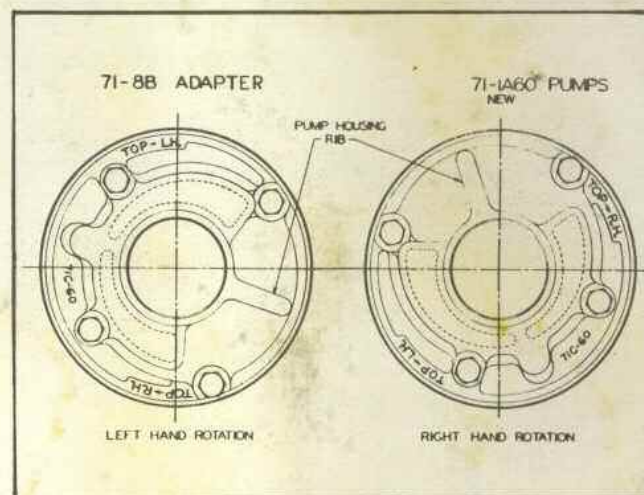
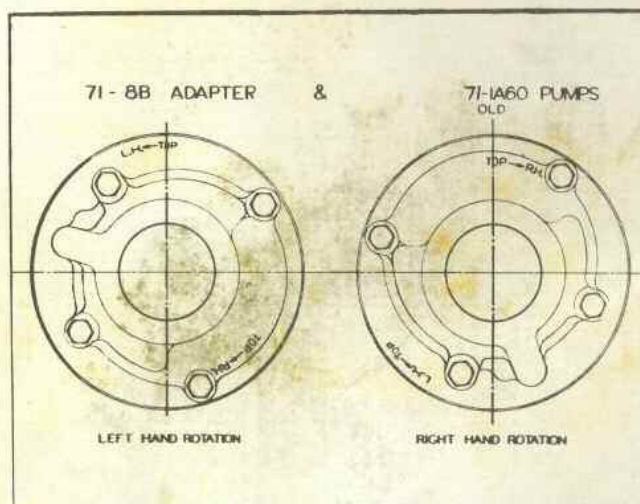

Fig. 98 Orientation Markings for New 71-1A60 Pump Assembly on 71-8B Adapter
Fig. 99 Orientation Markings for Old 71-1A60 Pump Assembly on 71-8B Adapter
- (b) Orientation of pump mounting bolt holes and direction of rotation arrow, depending on desired direction of input rotation, (Fig. 98 or Fig. 99).
The newer pump assembly with backing plate, identified by the rib on the pump housing, will be properly mounted when the marking on the pump housing appears as shown in (Fig. 98), when mounted on the 71-8B adapter, (Fig. 89). If the same pump were mounted on the new adapter 71C-8, (Fig. 61), the pump markings would be identical to those illustrated for the new 71C-A60 pump assembly in (Fig. 68).
The older pump assembly with backing plate, identified by the absence of the rib on the 71-60 pump housing, would appear as illustrated in (Fig. 99) when mounted on the old 71-8B adapter (Fig. 89). This older pump assembly with backing plate could also be mounted on the new 71C-8 adapter (Fig. 61), but this has not been illustrated as no original factory installations were made in this manner.